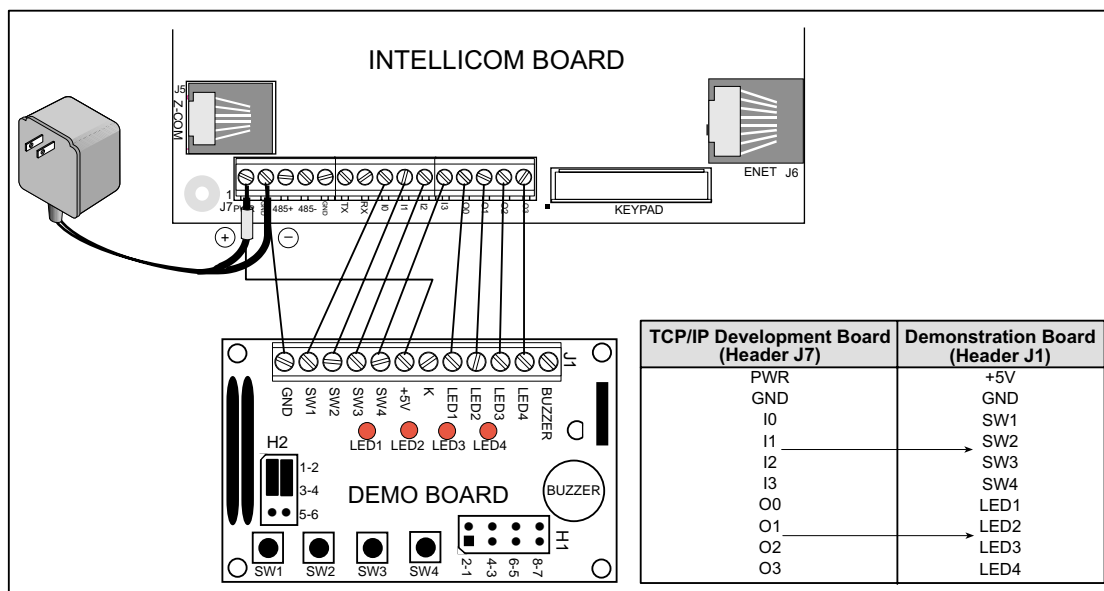

Figure D-1. Connections Between Intellicom Board and Demonstration Board
1. Use the wires included in the Intellicom Tool Kit to connect header J1 on the Demonstration Board to header J7 on the Intellicom board. The connections are shown in Figure D-1.